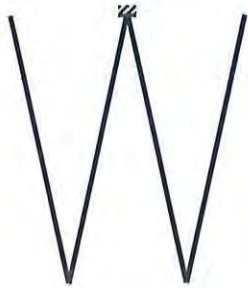
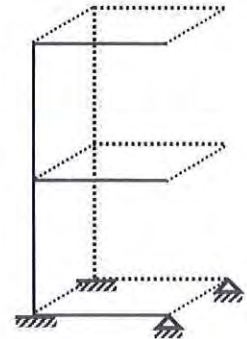

Fig.5
Fig.8
- Determine the degree of kinematic indeterminacy (**doki**) and show the corresponding deflections and rotations of the 2D frame (**Fig.5**) and 3D frame (**Fig.8**) for the following cases